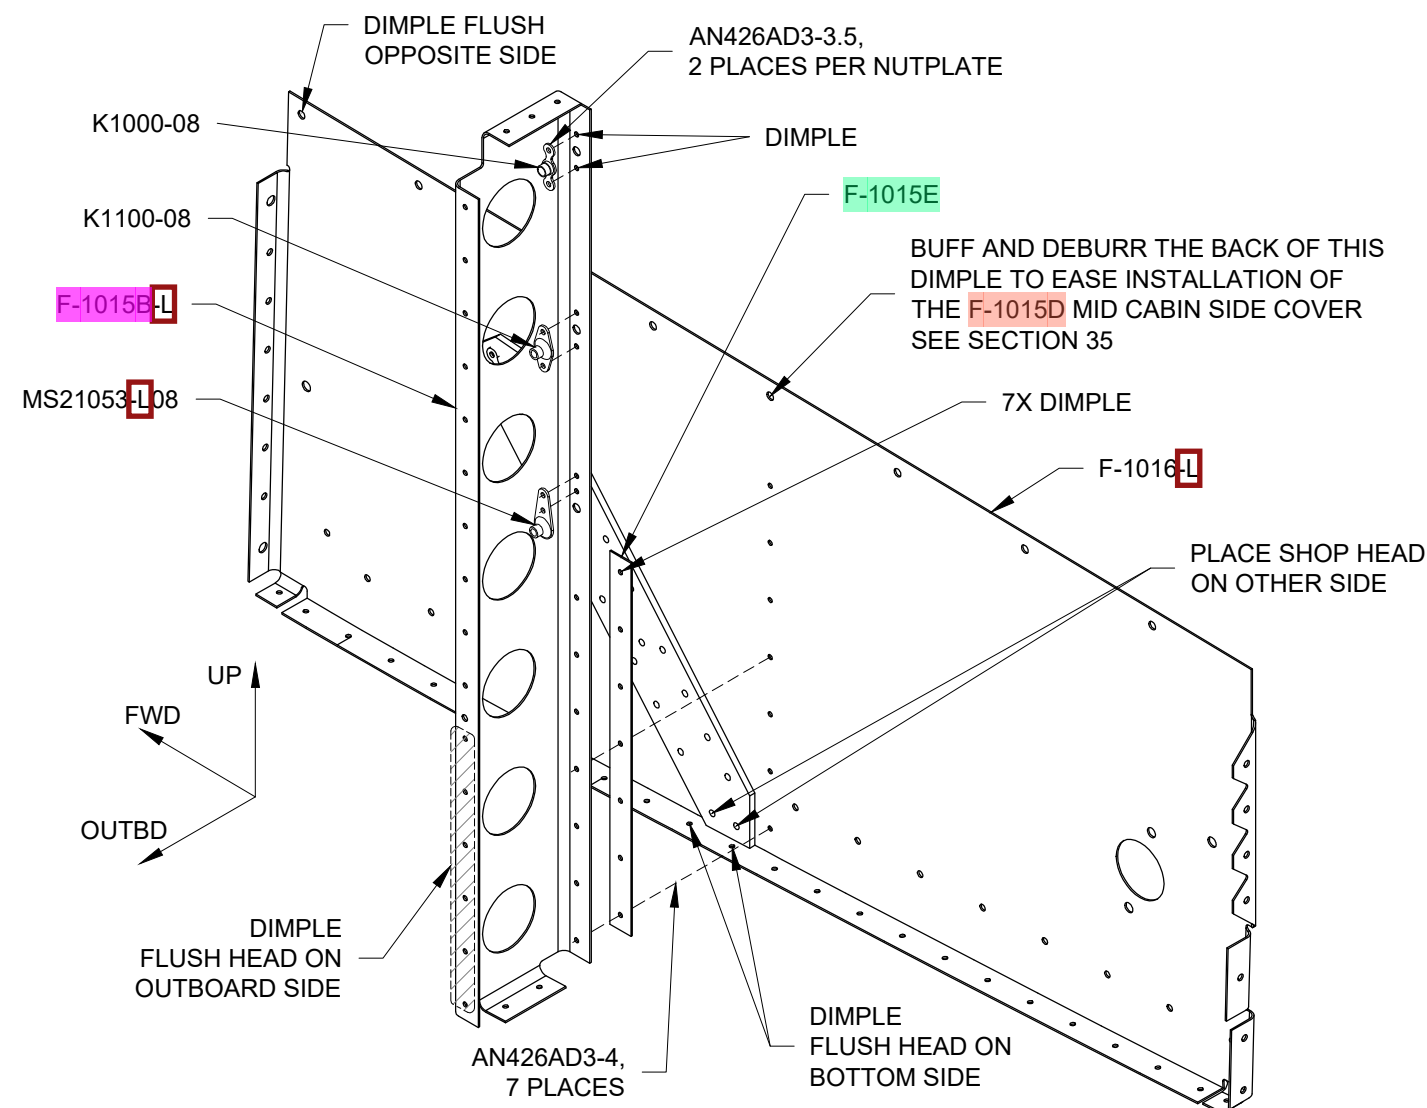

FIGURE 2: LEFT OUTBOARD SEAT RIB SUBASSEMBLY
Rivet the F-1015B-L Seat Rib Intercostal and F-1015E Spacer to the F-1016-L Outboard Seat Rib per the call-outs in Figure 2 to finish the Left Outboard Seat Rib Subassembly.
Step 2: Cleco the left and right, inboard and outboard seat rib subassemblies and inboard seat rib spacers to the Aft Center Section Bulkhead Assembly as shown in Figure 2.